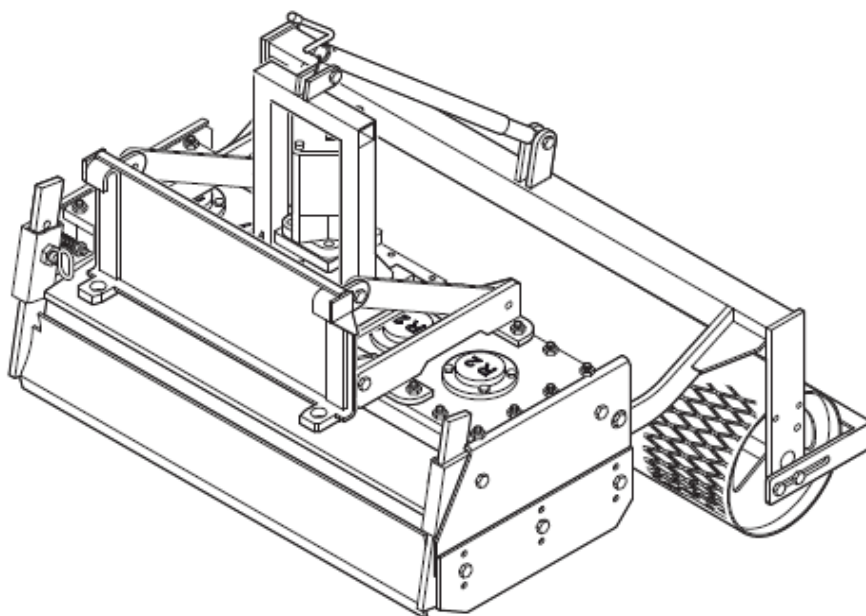

Fig 9
- 1- Disassemble the roller unit from the mill and the screw register (Fig. 9).